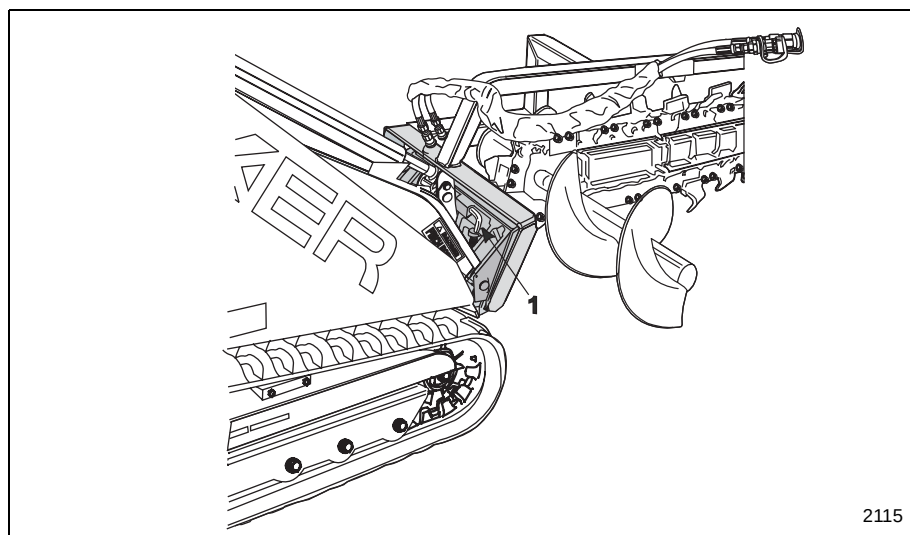

Figure 4 Hydraulically Powered Attachment Installed
4. When the machines mounting plates top edge is seated in the attachment mounting plate, curl the machines mounting plate backwards slightly to allow the lower edge of the machines mounting plate to slide into position. See **Figure 4**.
6. Rotate the attachment lock pins (Item 1, **Figure 4**) into the locked position securing the attachment to the machine.